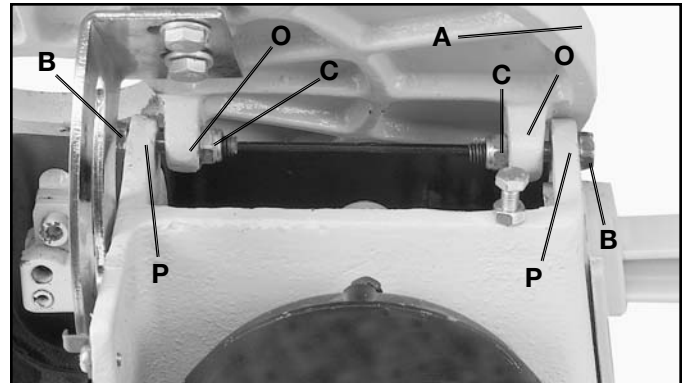
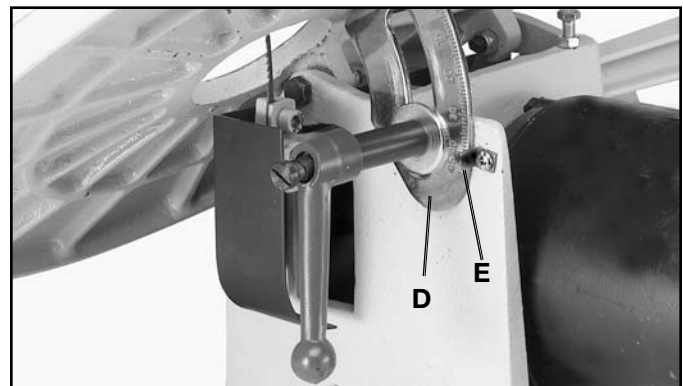

Fig. 3
Fig. 4
2. Position table (A) Fig. 3, on the machine as shown. Align the two holes in the table trunnions (O) with the two holes in the base (P) of the machine and fasten the table (A) to the base (P) using the two special screws (B) and locknuts (C) as shown. NOTE: Before tightening the special screws (B) and nuts (C) make sure the angle of tilt scale (D) Fig. 4, is positioned inside pointer (E) as shown. Also, do not completely tighten the special screws (B) and nuts (C) Fig. 3. Table must be able to tilt freely.